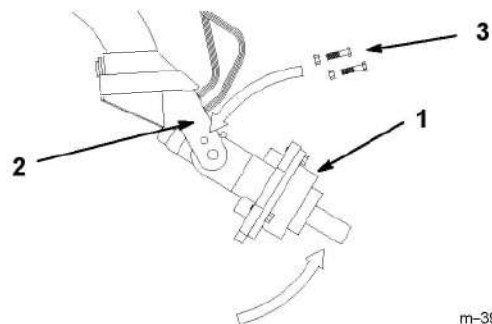

Figure 4
3. Manually rotate the auger drive head up, until you can slide (2) 5/8"-11 x 3-1/2" bolts into the holes on both sides of the cradle arms, securing the drive head. Lightly secure each bolt with a 5/8"-11 nut (Fig. 4).